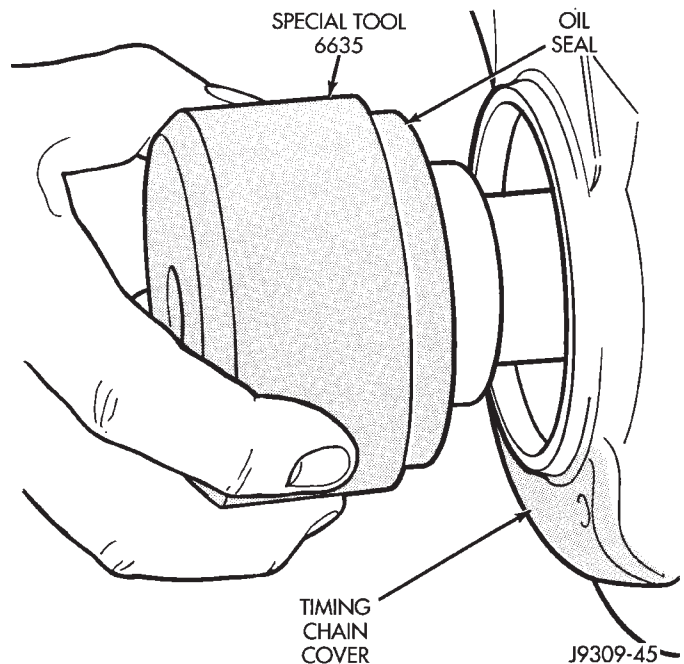

Fig. 43 Position Tool and Seal onto Crankshaft
(2) Position the seal and tool onto the crankshaft (Fig. 43).